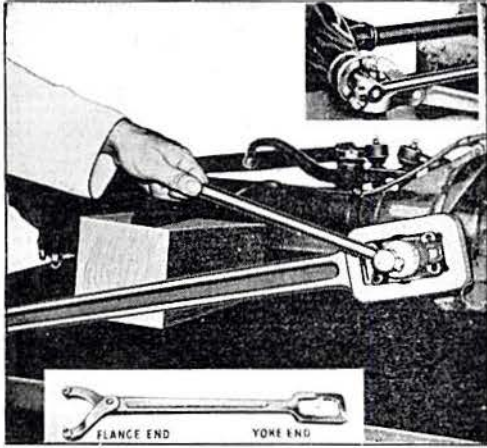
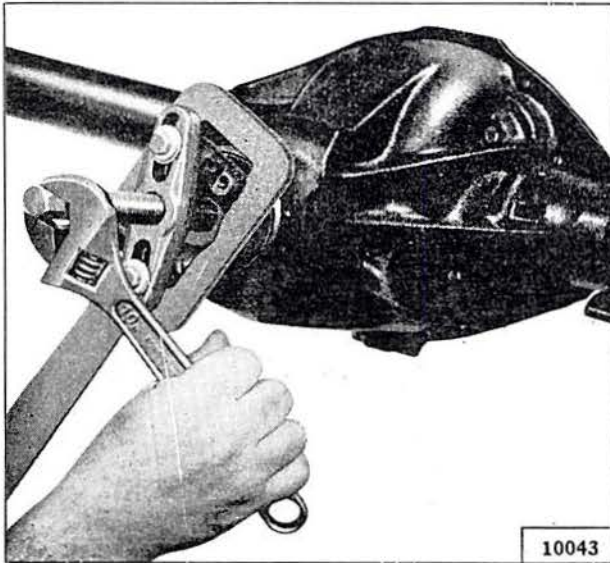

FIG. 242—FLANGE HOLDING WRENCH
FIG. 243—END YOKE PULLER
h. To remove the drive pinion, first remove the universal joint end yoke assembly. Use Tool C-3281 to hold the shaft as shown in Fig. 242 while removing the nut. Use Puller, Tool W-172, or C-452 to remove the end yoke as shown in Fig. 243.